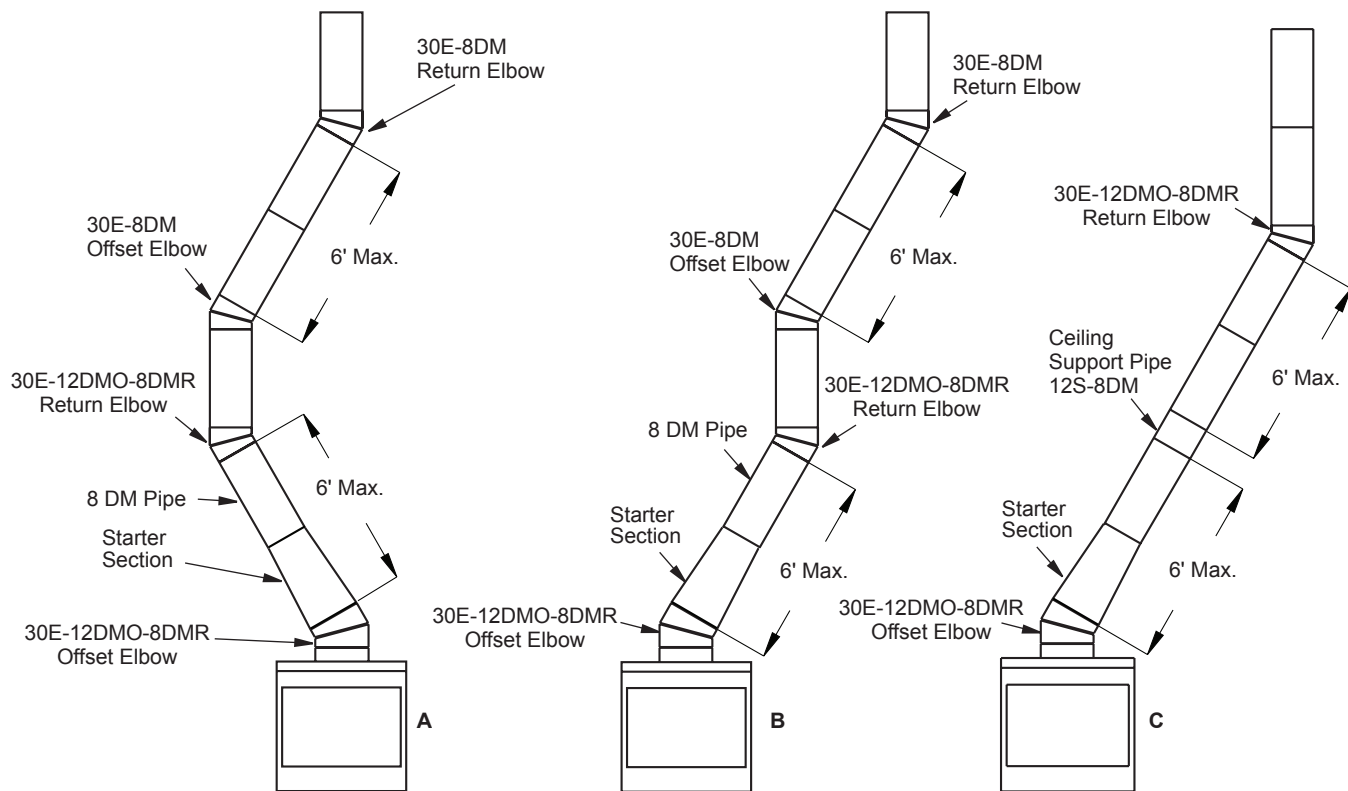

Figure 10 - Typical Offset Installation
- Maximum length of pipe between supports (return elbow or 12S-8DM) is 6' of angle run. Maximum of two 6' angle run sections per chimney system (see Figure 10, page 9).